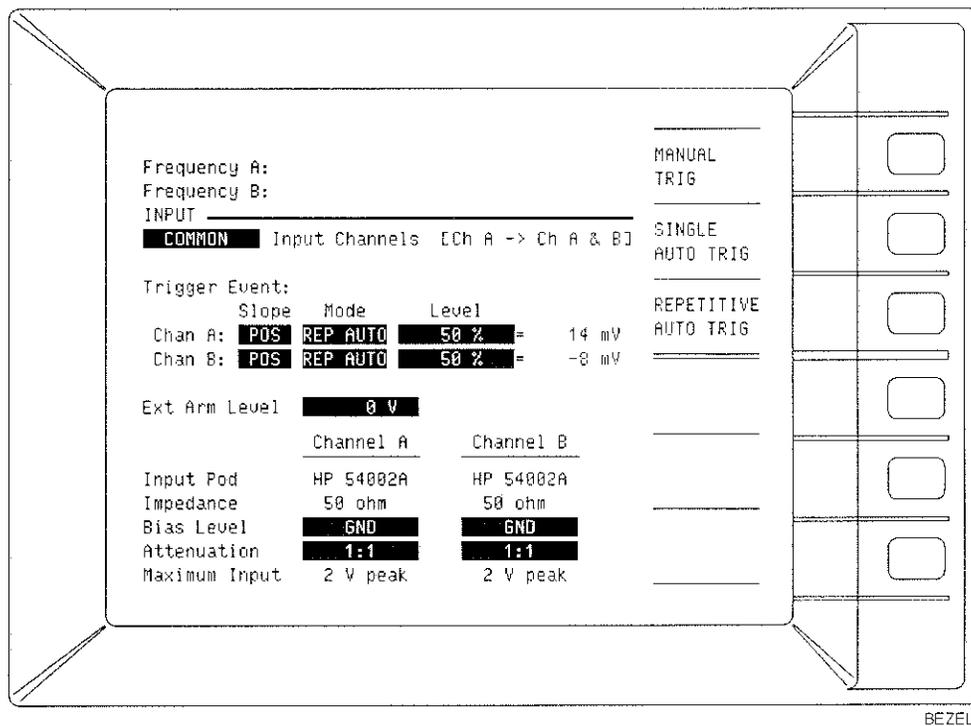

Figure 2-13. Auto Trigger INPUT Screen Display
- Press the **REPETITIVE AUTO TRIG** softkey. (The HP 5371A front-panel CRT display should appear as in *Figure 2-13*.)